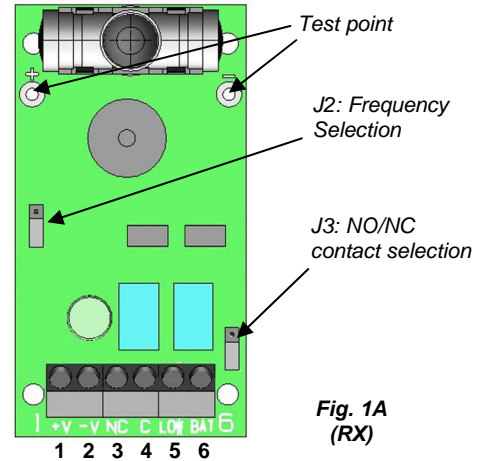

Fig. 1A (RX)
- Select the same operating frequency on the receiver and on the transmitter with the specific jumpers (J2, fig 1A & 1B):
- With a voltmeter, set for measurement of alternating voltage, measure the value on the receiver test-point. (Fig. 1A). This value varies according to various parameters, among which the distance between the photocells. The higher the voltage value on the test-point the better is the alignment. The ideal measure should be between 0.5 and 0.6 VAC.